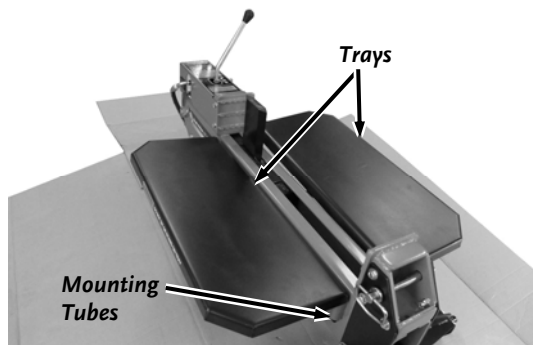

Figure 13
18. Install the Trays onto the sides of the Beam assembly and secure with the Hitch Clips (**Figure 13**).